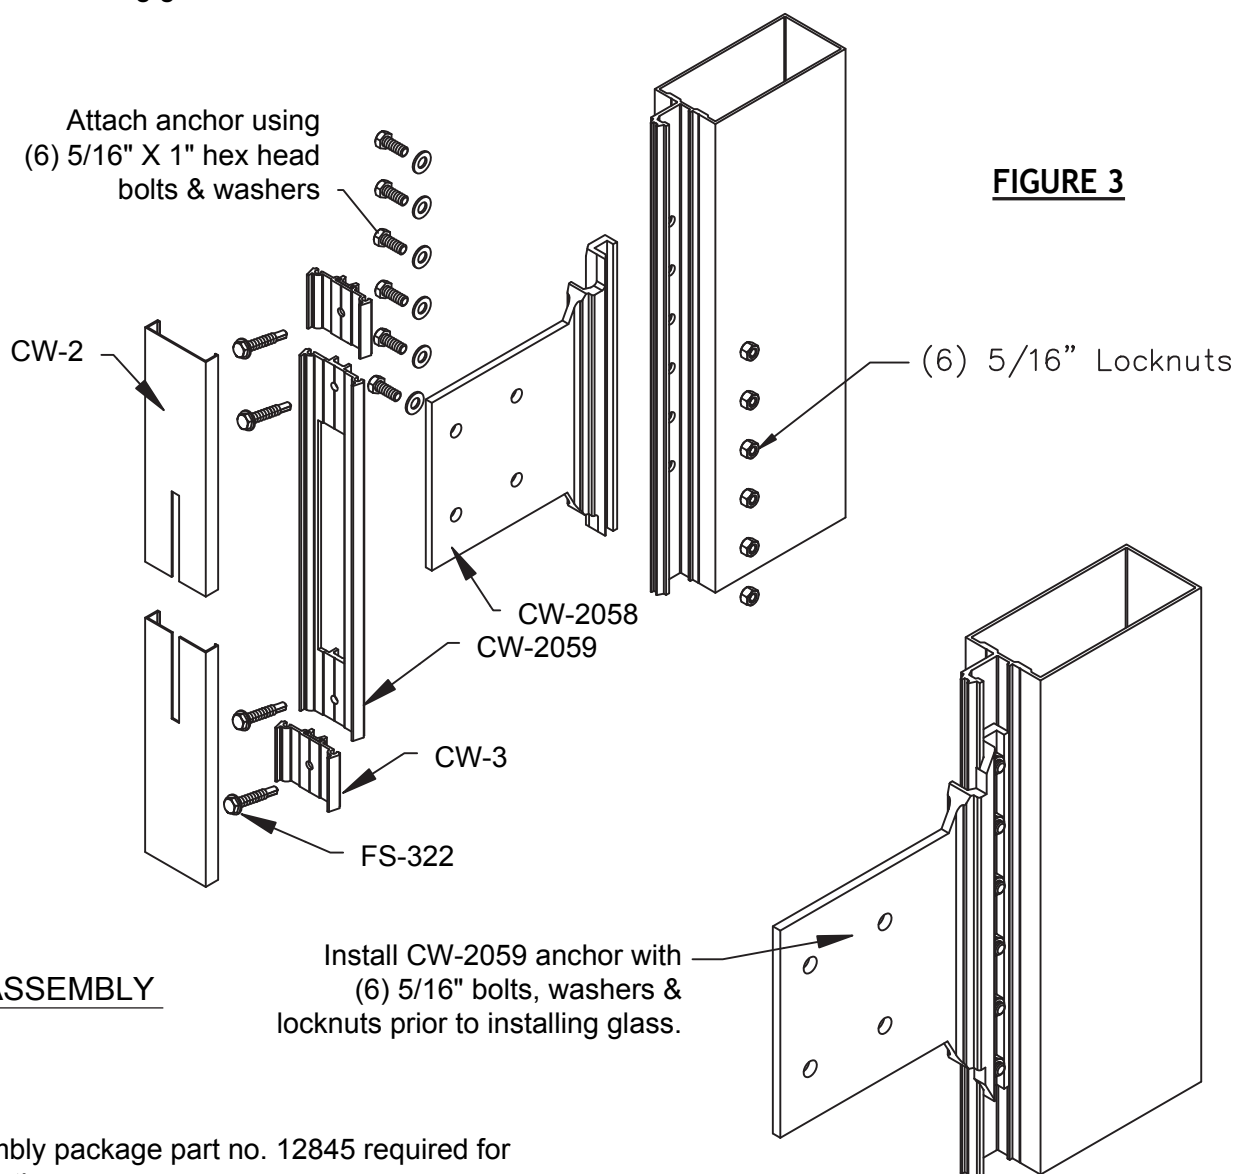

FIGURE 3
- 3) Hardware required for attachment of standard anchor (CW-2058) will be contained in the hardware package, (part. no.12845). This package contains (1) one CW-2059 cover plate, (6) six 5/16"- 18 x 1" stainless steel hex head bolts, nuts and washers and (4) 3/8"-16 x 1-1/4" stainless steel hex head bolts, nuts and washers.
- 4) Attach anchor to mullion by first hooking into tongue of mullion. The 5/16" nuts will next in the side of the anchor and allow the bolt to be inserted through the stem and anchor and tightened. Repeat for each of the 6 bolts. See FIGURE 3 (Size and quantity of bolts may vary based on project requirements, consult engineer for specific job applications).
- 5) Once system is glazed, install section of CW-17 gasket onto CW-2059 cover plate and install plate over anchor attaching to mullion using (2) two FS-322 (#12-14 x 1" HWH Drill-Flex fasteners).